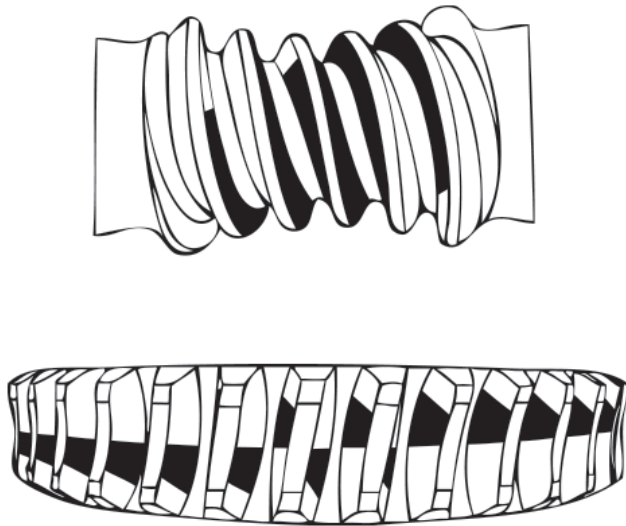
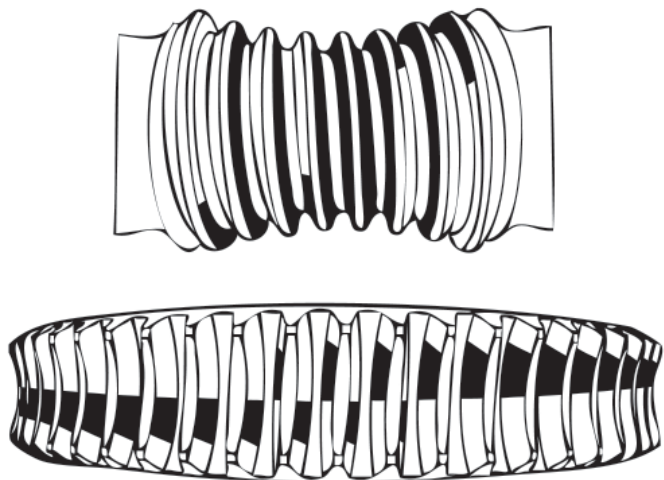

Figure 5
Figure 9
4. The gearset must be positioned properly at assembly to obtain the desired contact between the worm threads and gear teeth. If the gearset is properly aligned, contact will be approximately as shown by the shaded portions in figures 5 or 9, depending on ratio. The correct pattern is symmetrical with respect to the centerline of the worm and the gear but will vary with ratio. The correct pattern for ratios 5:1 to 25:1 are shown in figures 5 and 6, and for ratios 30:1 to 70:1 see figures 9 and 10.